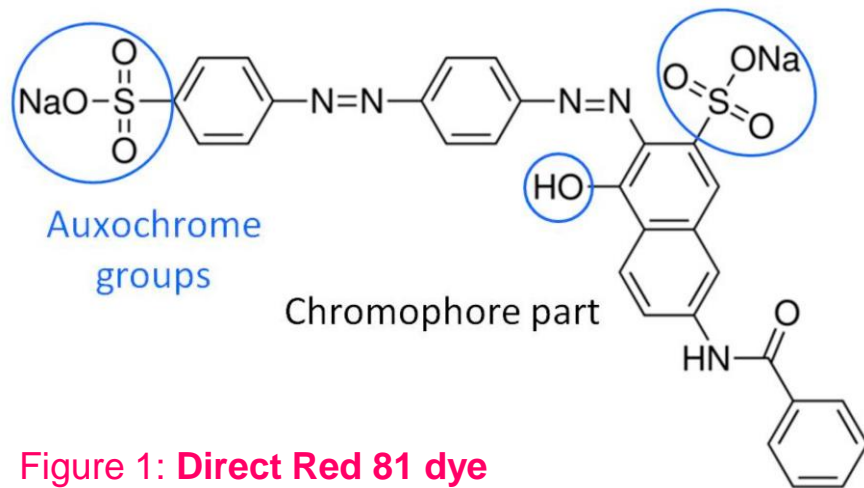

Figure 1: Direct Red 81 dye
- ❑ The figure 1 is showing the chemical structure of Direct Red 81 dye, containing azo-group. They usually contain at least one azo group and some sulfonic acid groups thus making them soluble.